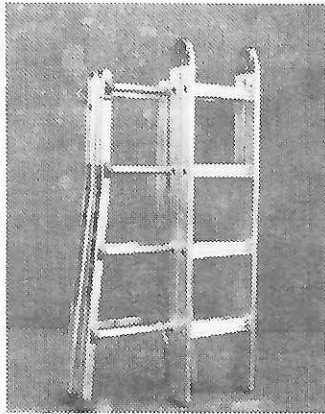

Figure C-1
1. Unlock all four lock assemblies and pull the inner ladder assembly completely out of the outer ladder assemblies. (FIGURE C-1)